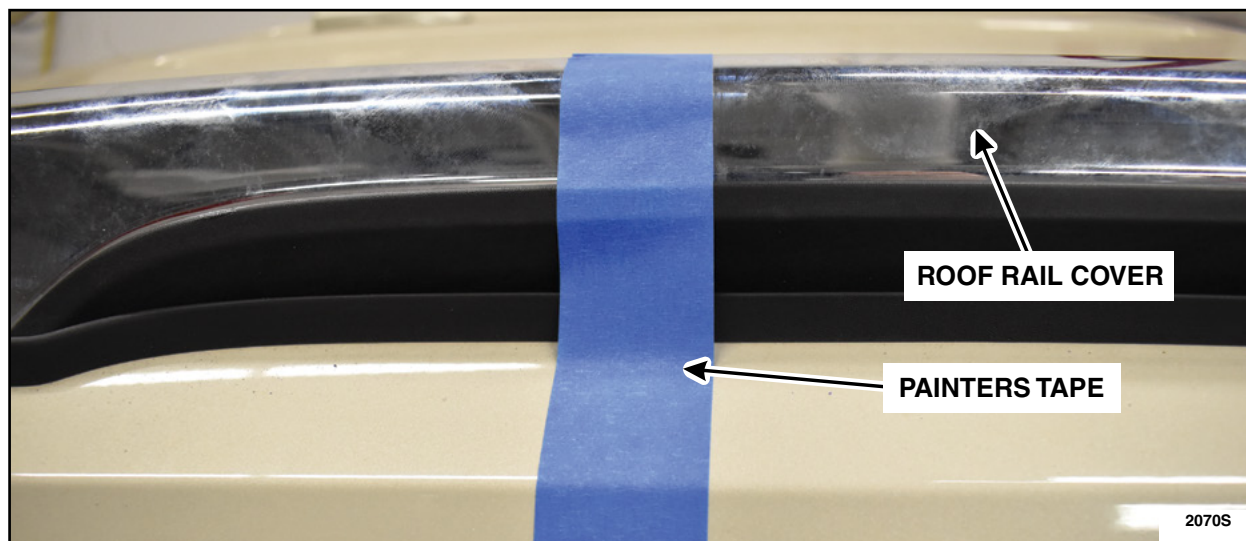

FIGURE 14
14. Apply the painters tape to the roof rail cover. See Figure 14.